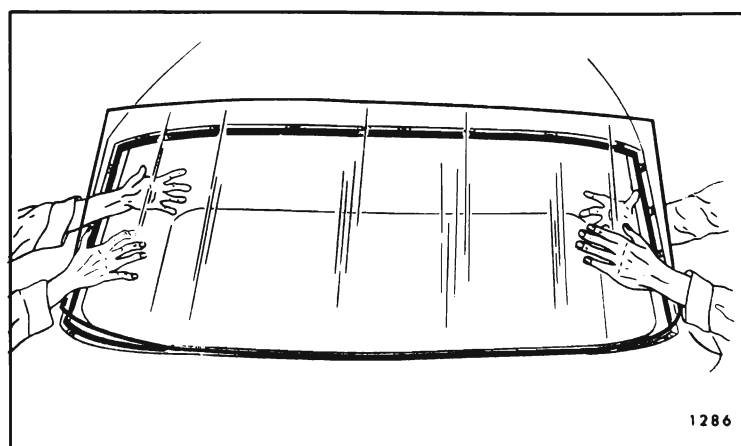

Fig. 3-11—Windshield Installation
10. With aid of helper, lift glass with one hand on outside of glass and one hand on inside of glass. Carefully move glass up to windshield opening maintaining glass in a horizontal position. While one man holds glass in this position, the second man can reach around the windshield pillar and hold glass; then, first man can reach around windshield pillar (Fig. 3-11). Carefully position glass into opening, making certain that glass is properly centered in opening and positioned on lower spacers. Use tape previously applied on windshield pillar to properly align glass (Fig. 3-9).